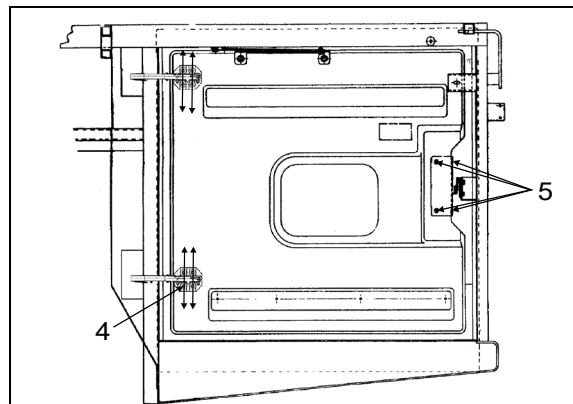

FIGURE 77: PORTE DU COMPARTIMENT MOTEUR18633_1
8. Desserrer les vis (4, Figure 77).